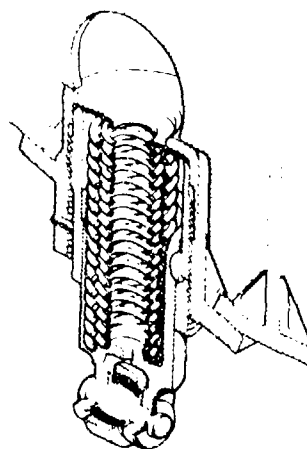

Figure 4-6. Leveler assembly.
(1) *Leveler assembly.* A spring-loaded leveler assembly has been added to the box trail directly behind the carriage pivot. The leveler assembly roller bears upon the platform stiffening ring and holds the platform in a horizontal position during travel (fig 4-6).